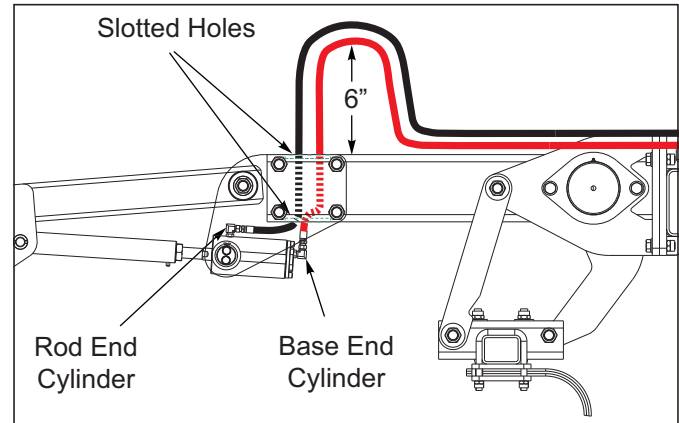
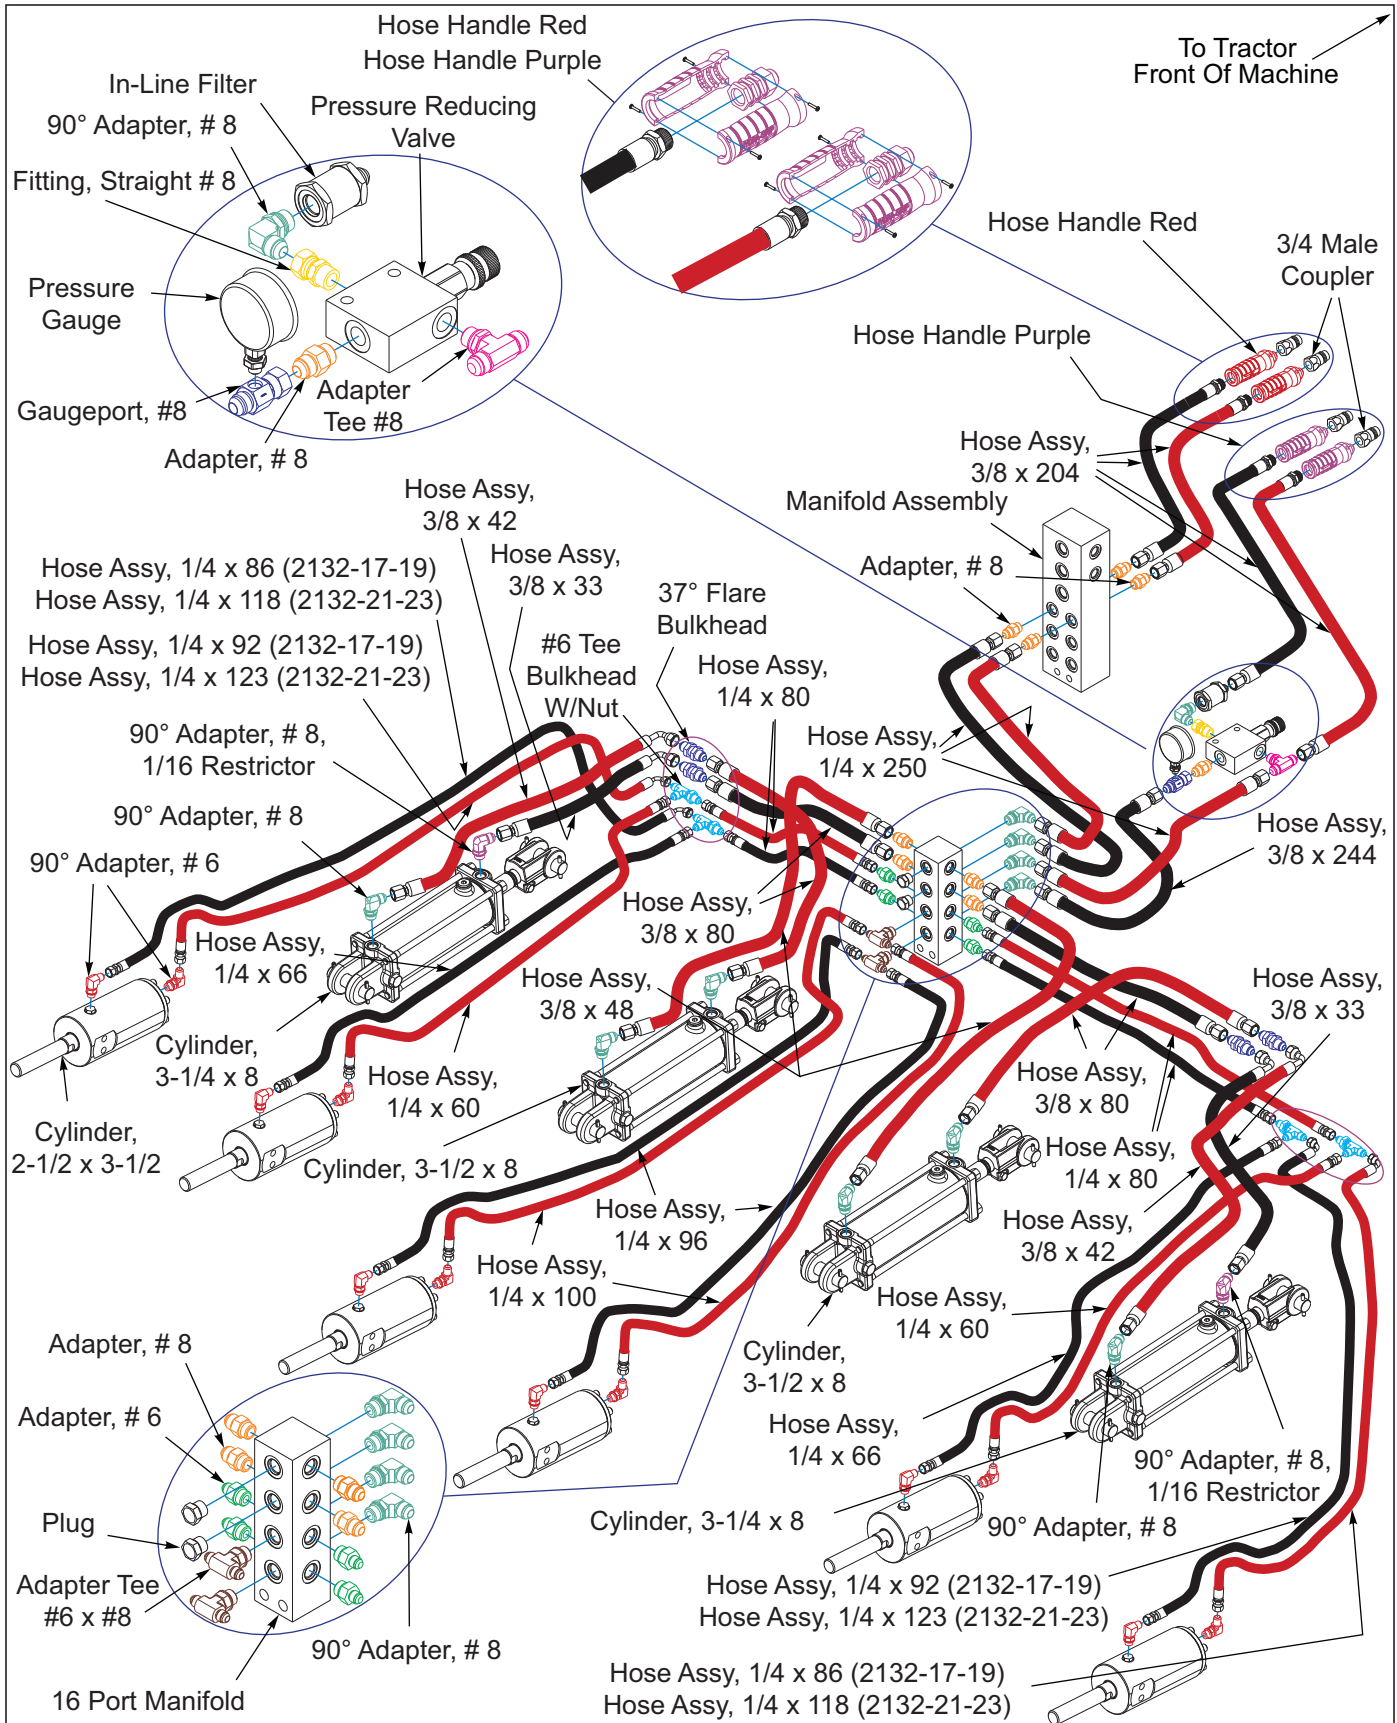
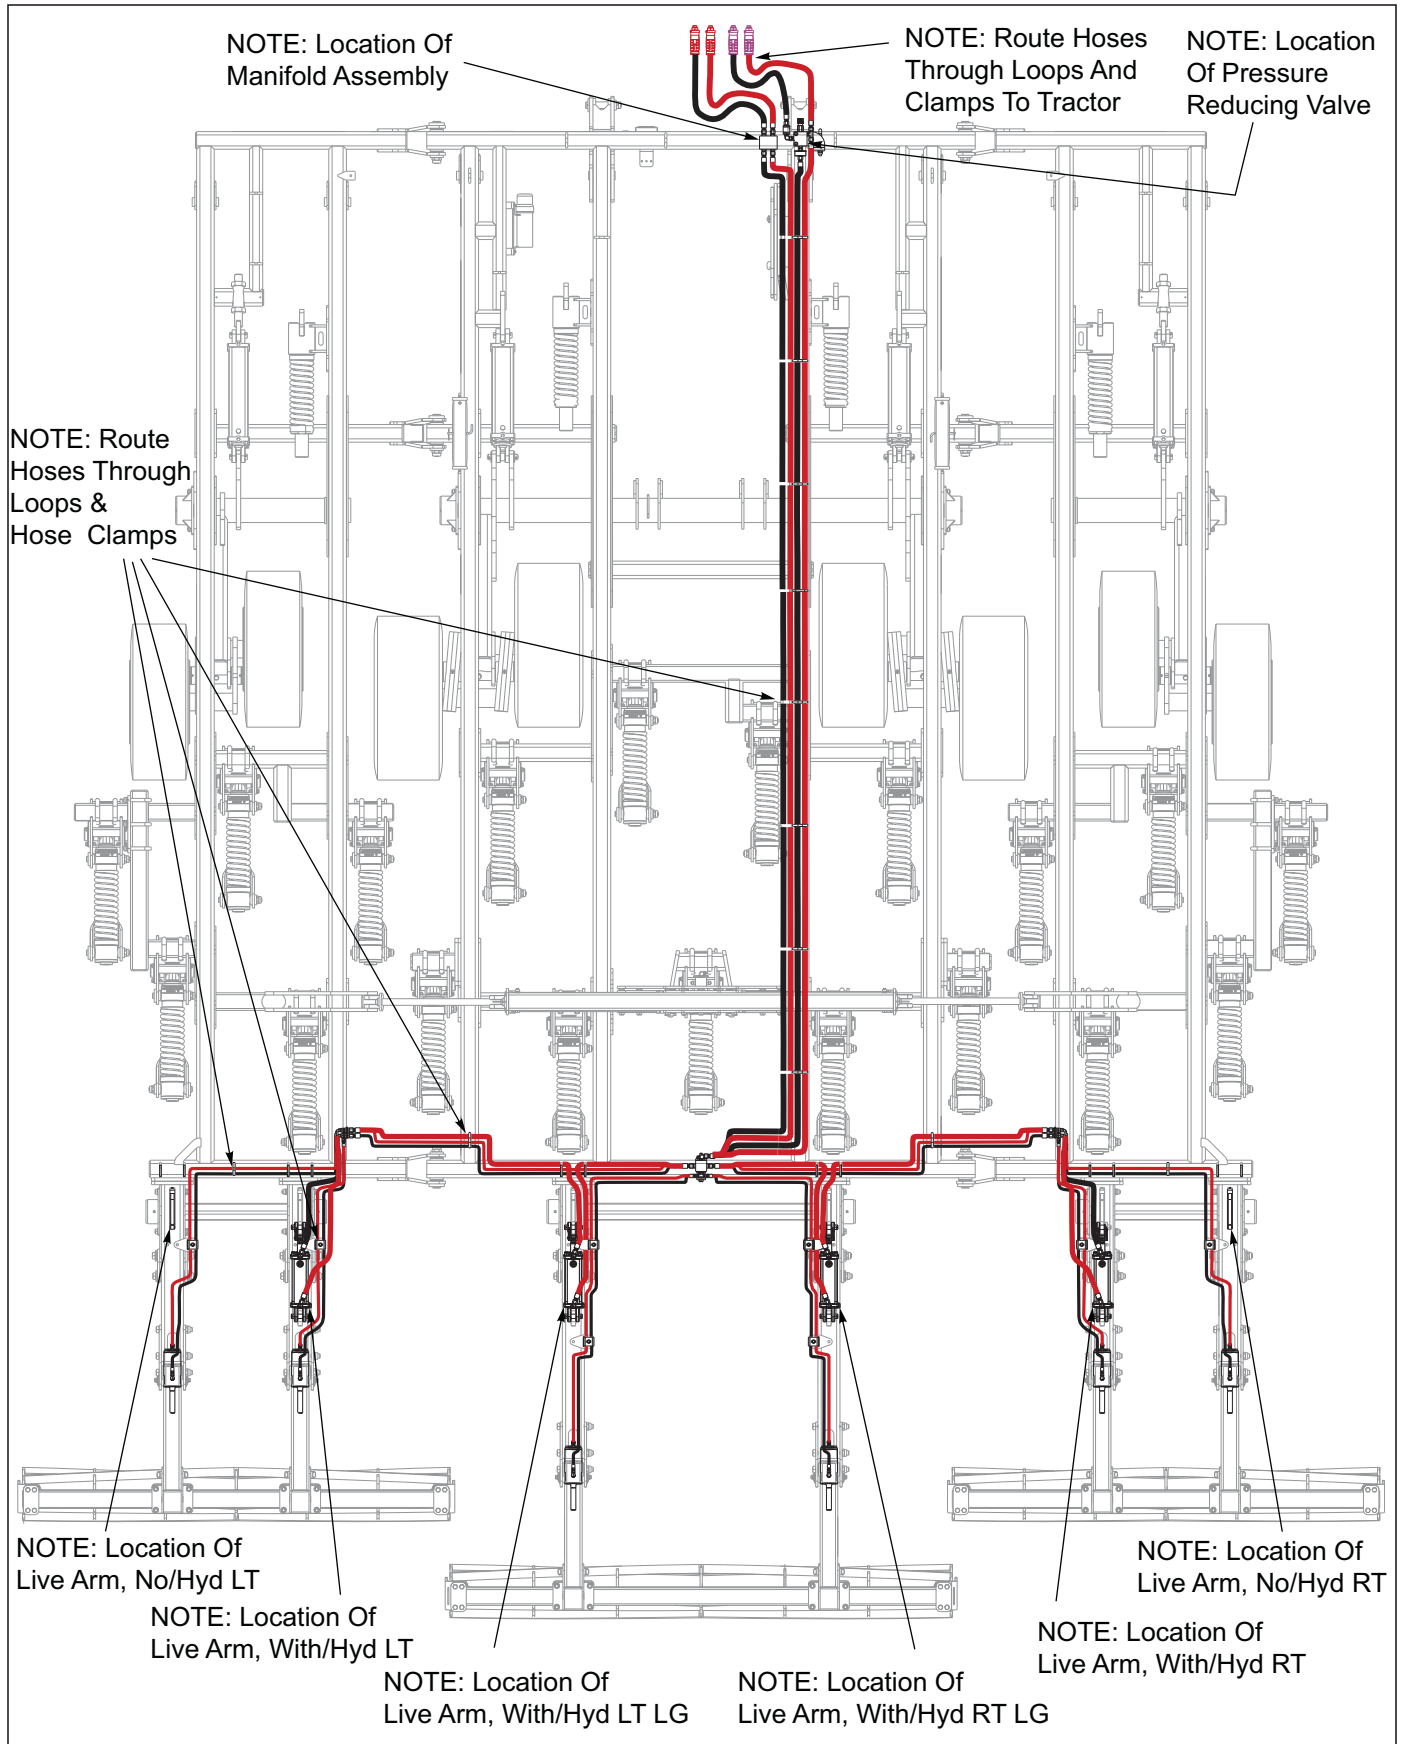

Figure 3-43: Hose To Cylinder Installation
Figure 3-45: Disc Lev/Hyd Hydraulic Installation
Figure 3-46: Disc Lev/Hyd Hydraulic Layout
14. Attach hoses down through the slotted holes of arm assemblies to cylinders as shown See Figure 3-43. The reel base end of cylinder hose hooks to 2nd bottom ports of 16 port manifold. Rod end hose of cylinder hooks to bottom side ports of 16 port manifold See Figure 3-45
16. Route hoses as shown See Figure 3-45 and See Figure 3-46.